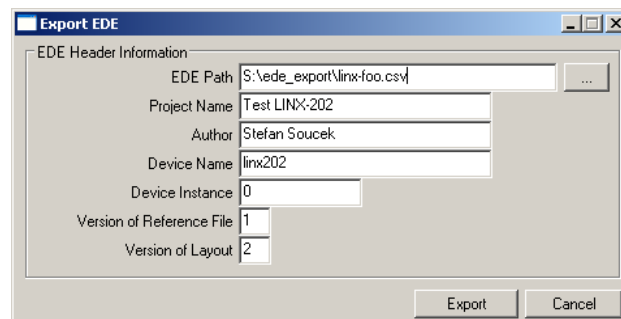

Figure 119: EDE Export Dialog.
2. Right-click and select **Export EDE ...** in the context menu. This opens the EDE export dialog to enter the EDE header information as shown in Figure 119.